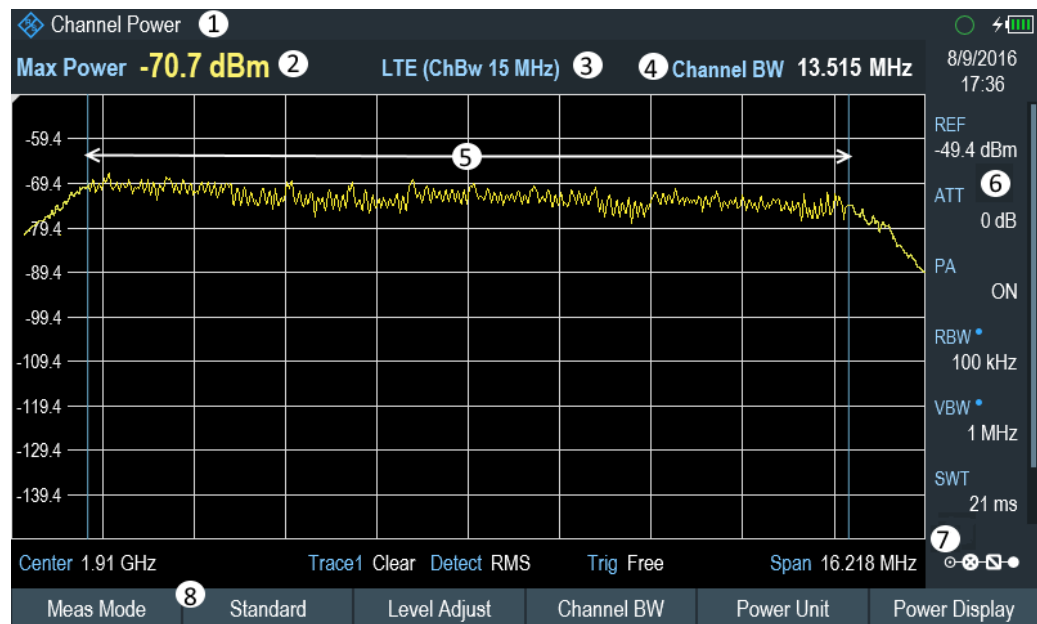

Figure 8-1: Screen layout for channel power measurements
The power display (see item 2 of Figure 8-1) switches from [Power] to "Max Power".